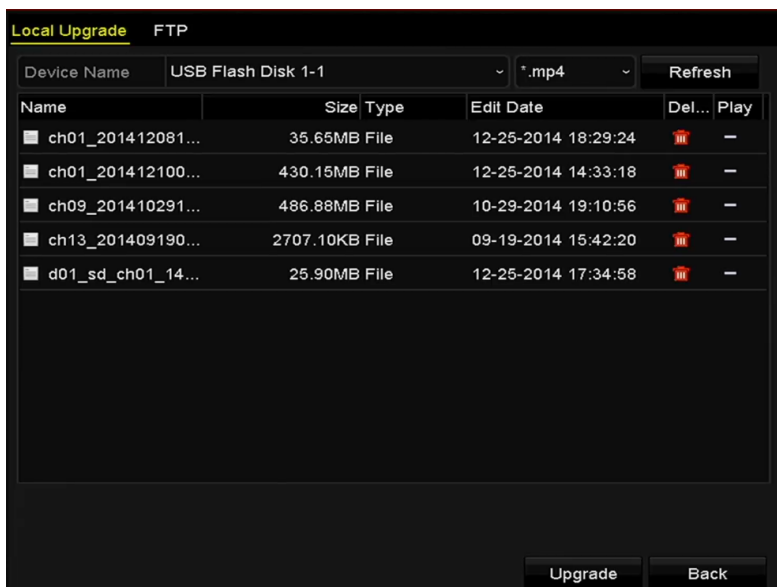

Figure 16-7 Local Upgrade Interface
Step 4 Click the **Local Upgrade** tab to enter the local upgrade menu, as shown in Figure 16-7.